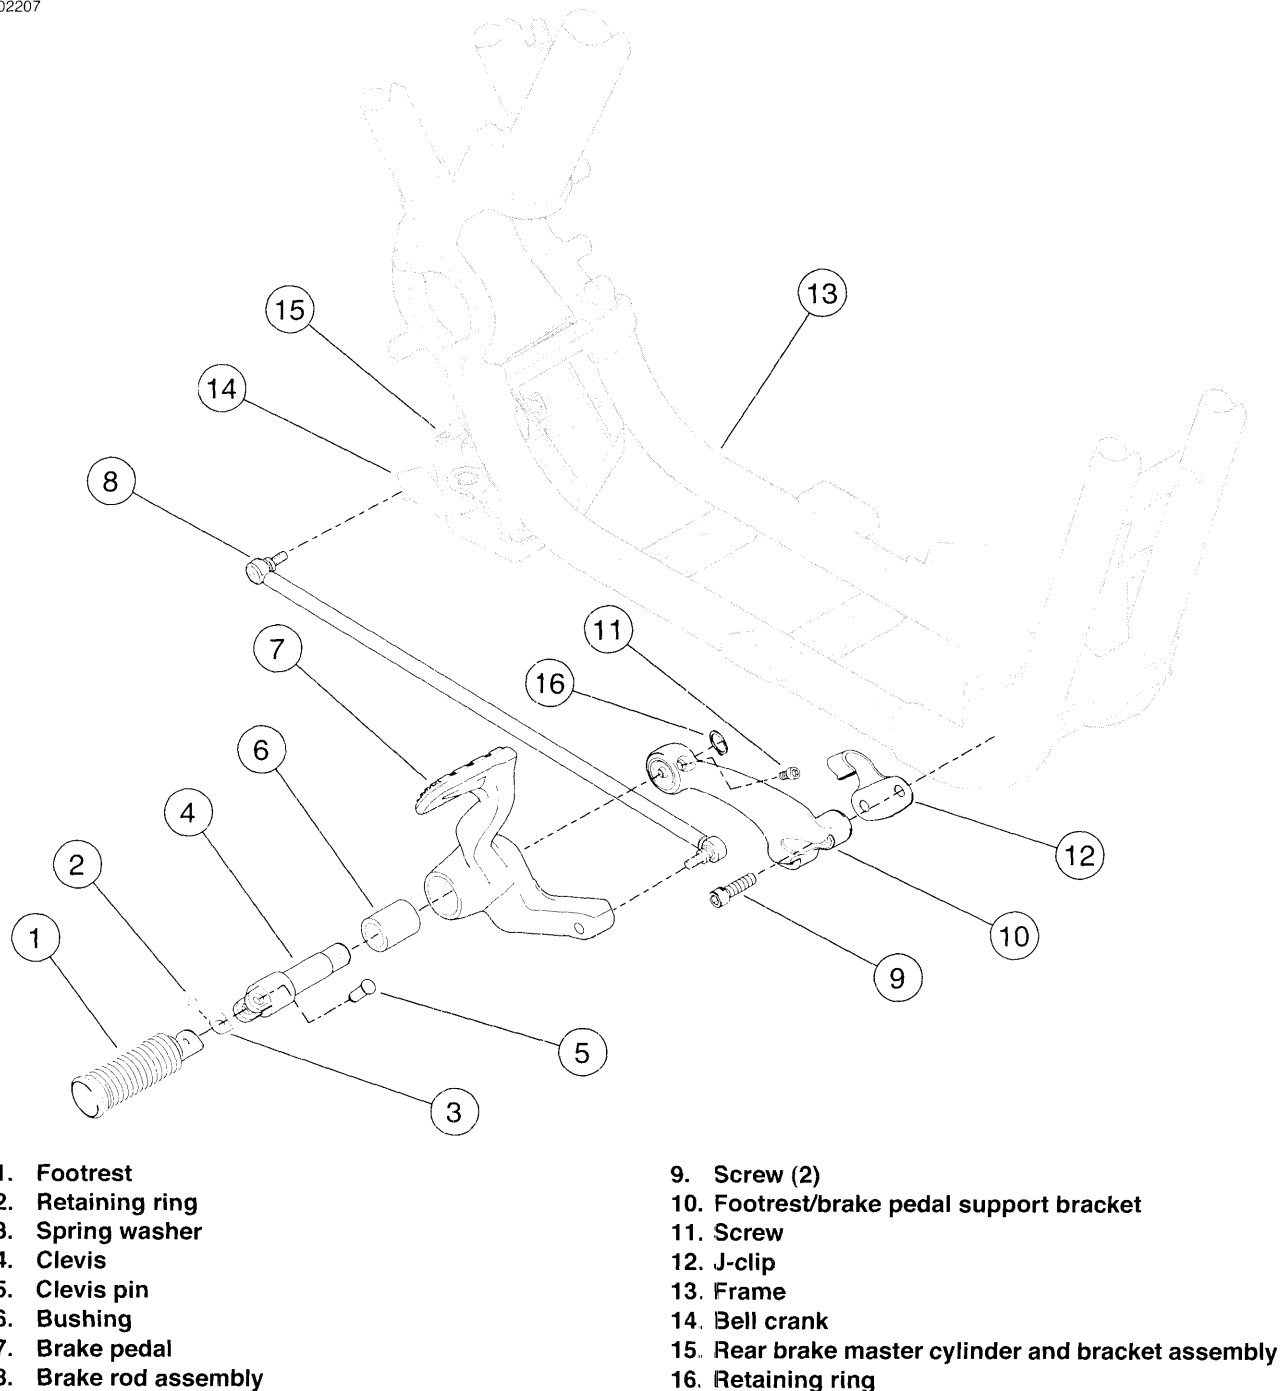

Figure 2-248. Forward Controls - Brake Side
1. See Figure 2-248. Remove retaining ring (2), clevis pin (5), footrest (1) and spring washer (3). Discard retaining ring.
2. Remove brake rod (8) from brake pedal (7) and master cylinder bell crank (14).
3. Remove retaining ring (16), screw (11) and clevis (4). Slide brake pedal off clevis. Discard retaining ring.
4. Remove two screws (9), footrest/brake pedal support bracket (10) and j-clip (12) from frame (13).
1. See Figure 2-248. Position j-clip (12) against frame as shown. Mount footrest/brake pedal support bracket (10)